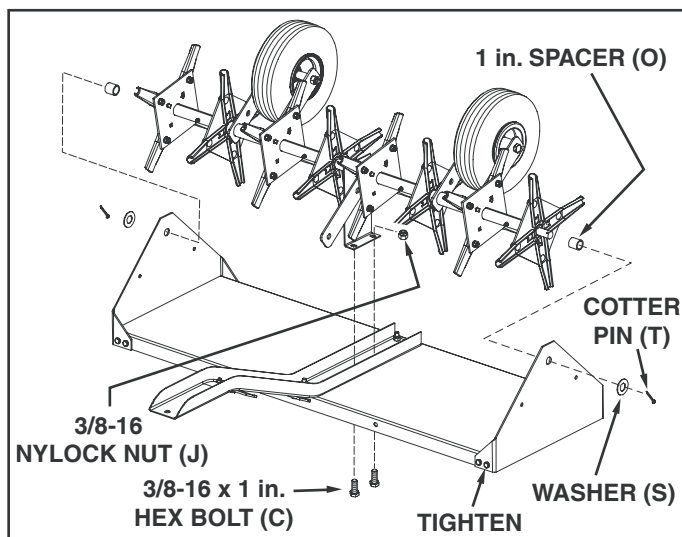

FIGURE 9
12. Turn tray upside down and install two 1 in. long steel tube spacers, one on each end of shaft. See figure 9.
13. Position the shaft assembly with each end of the shaft extending through the holes in the end plates and secure each end of the shaft with a large flat washer and cotter pin. See figure 9.
14. Fasten the middle bracket to the tray assembly using two 3/8-16 x 1 in. hex bolts and two 3/8-16 nylock hex nuts. **Tighten** tray to end plate bolts. See figure 9.